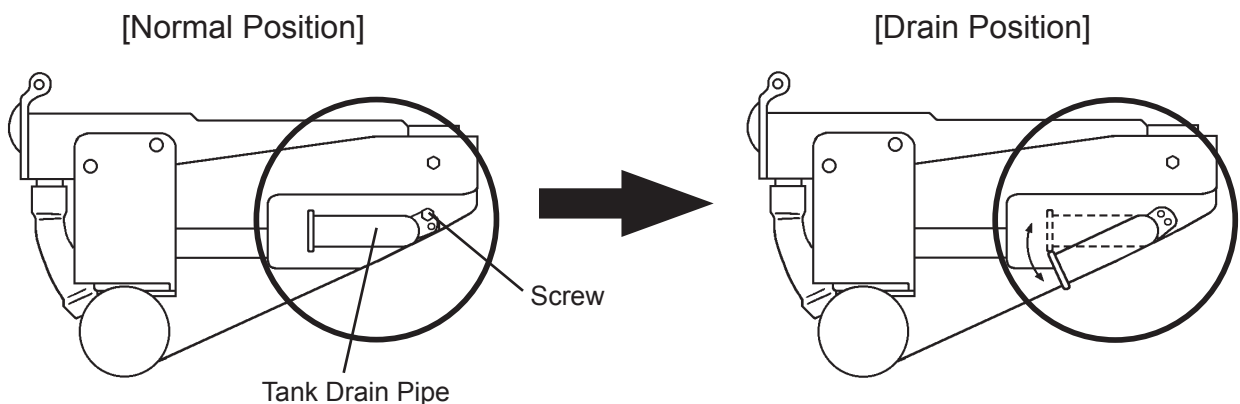

Fig. 10
- 1) Remove the screw located on the front of the water tank. Move the tank drain pipe to the drain position (see Fig. 10). Secure the tank drain pipe with the screw.